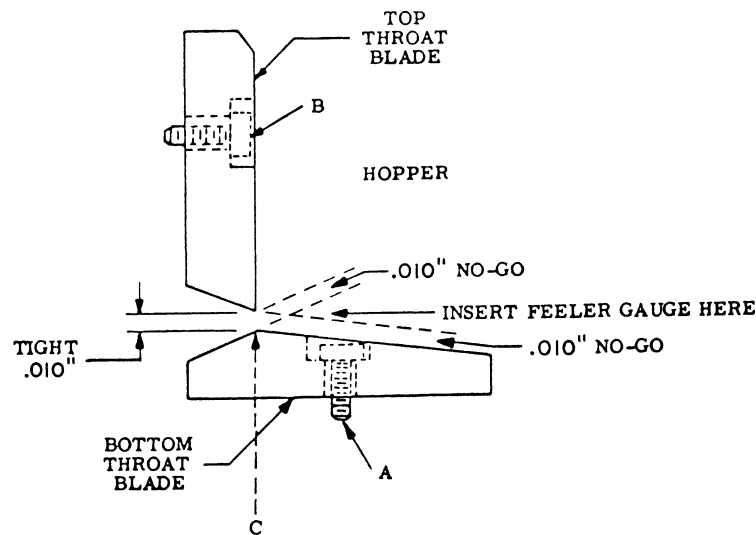

Figure 4-7. Hopper Throat
- a. Loosen the lamp bracket holding screws (E). Raise or lower the lamp bracket to obtain a clearance of 0.015 inch \pm 0.003 (A) between the lamp bracket and read bed plate. Tighten the screws.
- b. Loosen the latch holding screws (C) and adjust the insulating blocks for equal clearance between the side plates and the insulation blocks (B). Tighten the screws.
- d. The front to rear alignment of the solar cells and apertures (D) is controlled by manufacturing tolerances and no adjustment can be made.
3. HOPPER THROAT (figure 4-7)